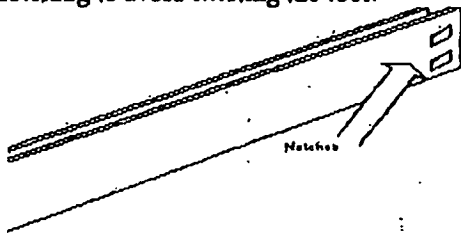

FIG. 4
Step 2. Using a notching tool, notch both ends of the bottom rail with one or two notches on each side (fig. 4). Hold the rail and the tool steady while notching to avoid twisting the tool.